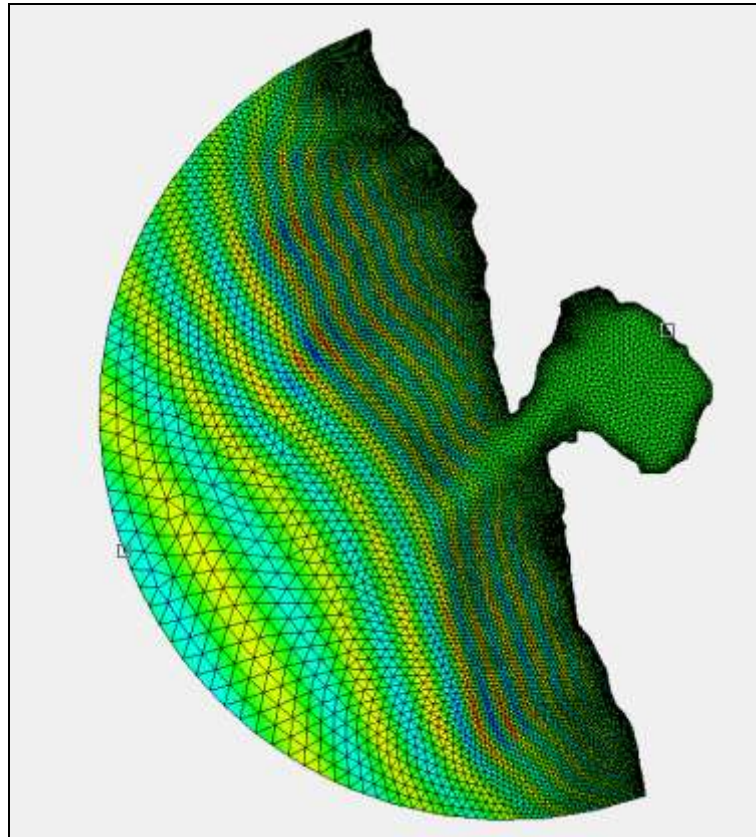

Figure 5 After running CGWAVE
6. Click **OK** to accept the defaults and close the *Dataset Time Information* dialog. The Main Graphics Window should appear as in Figure 5.